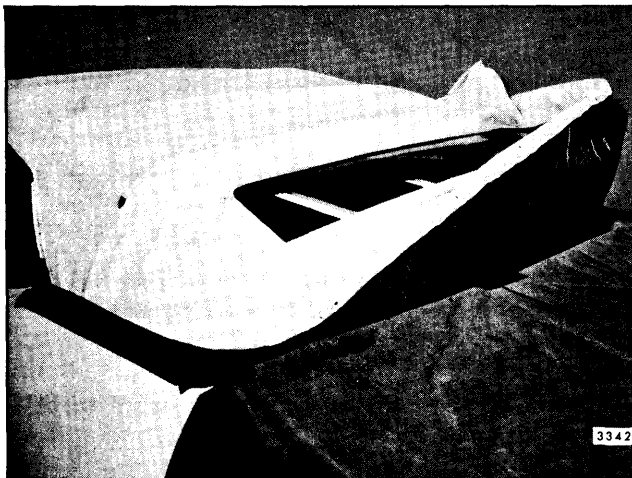

Fig. 13-49—Raising Balance of Trimstick "A" Styles
Raise removed end of trimstick upward and forward. Then continue by removing balance of trimstick above body belt line (Fig. 13-49 and 13-50).
6. Position rear trimstick(s) into body in reverse of removal operations. (See Step 10 & 11 of Back Curtain Removal, Fig. 13-49 or 13-51).